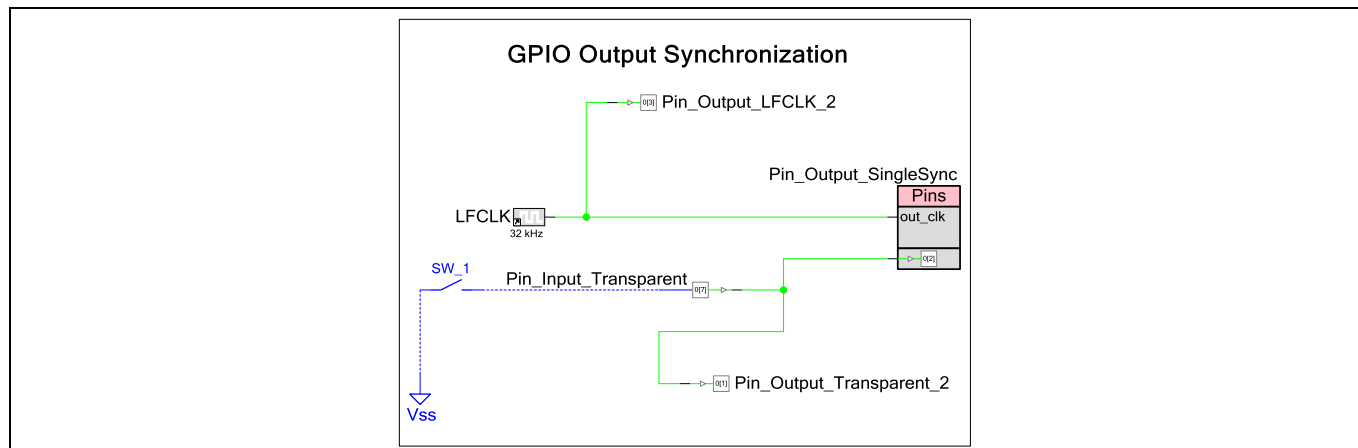

Figure 62 GPIO Output Synchronization Example Schematic
2. Connect the pins as **Figure 62** shows.